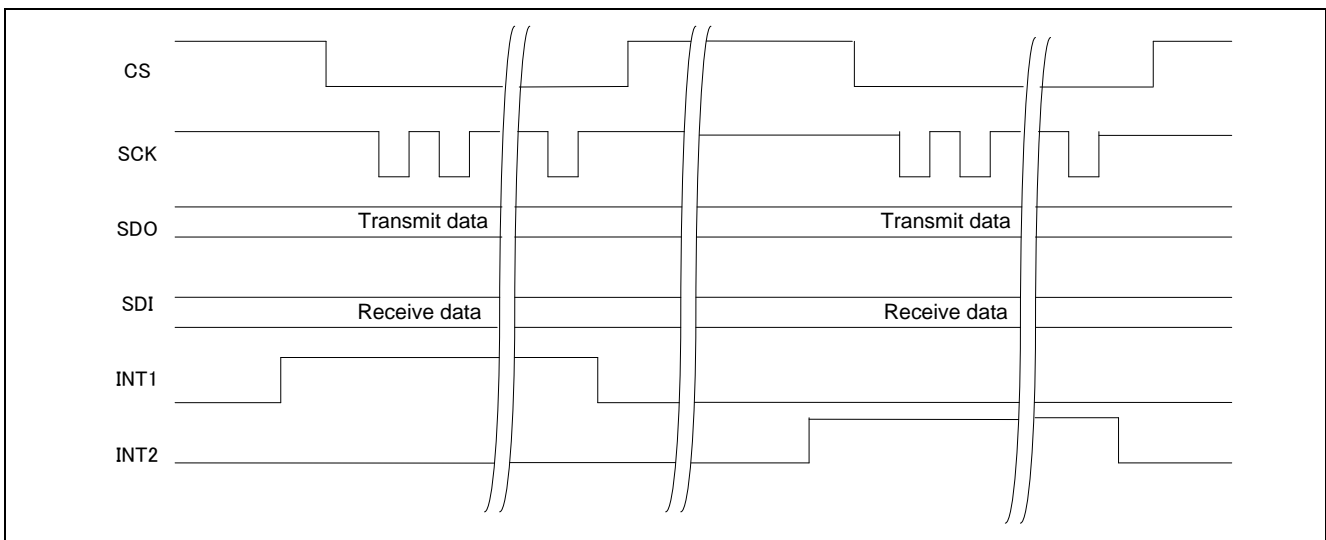

Figure 5.3 Output Waveforms from Accelerometer
- ⑥ Starts the RTC and disable the constant-period interrupt and alarm interrupt.
- ⑦ Starts the SAU0.
- ⑧ Enables the external interrupts.
- ⑨ Enables the maskable interrupt.
- ⑩ Makes the initial setting for the accelerometer by using the SAU0 and P31 when the initial setting is complete for the device peripheral functions.
- Figure 5.3 shows the output waveforms from the INT1 and INT2 pins of the accelerometer. The INT1 and INT2 pins become low by reading the interrupt source from the accelerometer through the SPI communication.